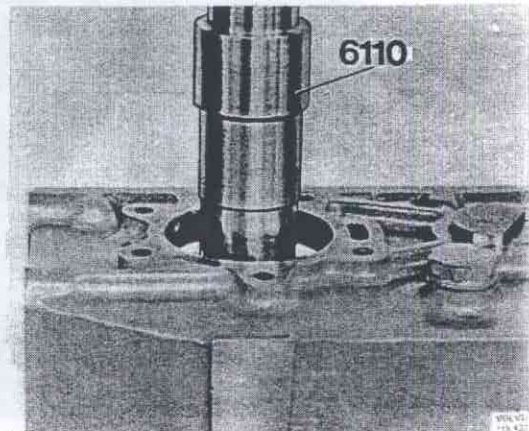

Fig. 43-193. Pressing on inner race
8. Check to make sure the synchronizing cone for the high speed is properly fitted in the hub. Fit the needle bearing inner race on the shaft and press it in with 6110, Fig. 43-193. Oil the